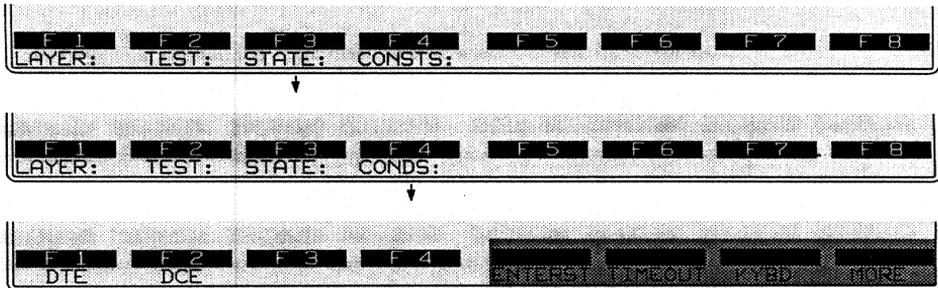

Figure 43-3 To monitor line conditions, first select *DTE* or *DCE*.
- A group of conditions and actions at Layer 3 on the Protocol Spreadsheet that facilitate SS#7 programming. Figure 43-3 shows the softkey path to the first rack of condition softkeys when the SS#7 package is loaded in at Layer 3.
When the Layer 3 SS#7 personality package is loaded in (via the Layer Setup screen), a set of conditions checks DTE and DCE leads both in monitor and emulate modes. This set of conditions is accessed by the DTE and DCE selections on the first rack of condition softkeys at Layer 3. See Figure 43-3.